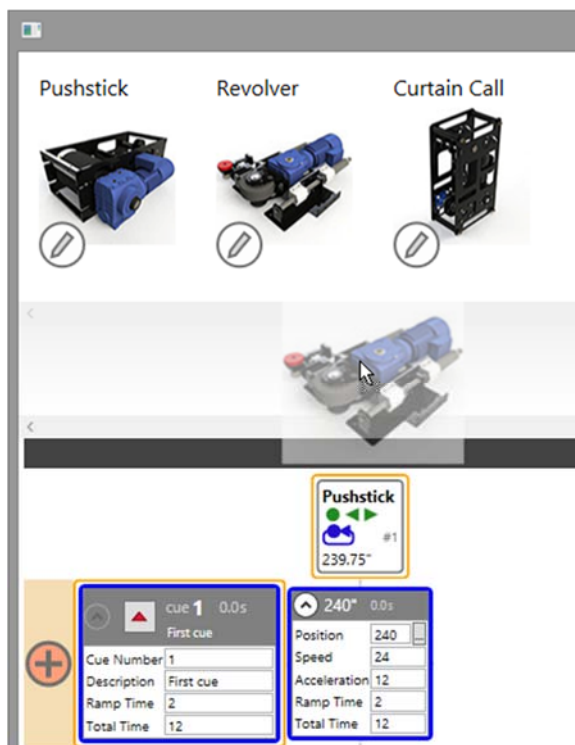

Figure 157
3. Drag the **Pushstick** machine from the **Machine Library** and drop it on either on the **Stage Model Viewer** or the **Cue Grid** (Figure 157).